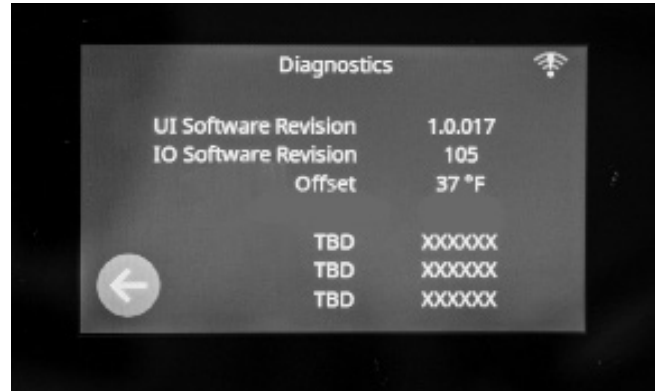

Figure 17
2. Press the Back button or arrow to return to the Home screen. (Figure 17)